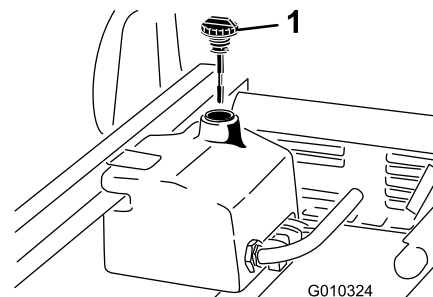

Figure 20
1. Clean the area around the filler neck and the cap of the hydraulic tank (Figure 20).
- Remove the dipstick (Figure 20) from the filler neck and wipe it with a clean rag.